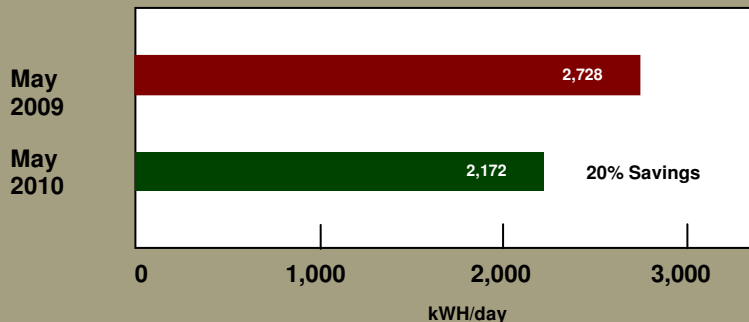

Figure 4
Wojcieszak & Associates, Inc. was hired to assist with the engineering for a chilled water pump retrofit. So far, the retrofit has been completed and reflects a **20% savings** in total electric utility costs. (Figure 4)
**The result:** The amount of water pumped was decreased resulting in a **monthly savings of \$1,500** (556 kWh/day). (Figure 4)